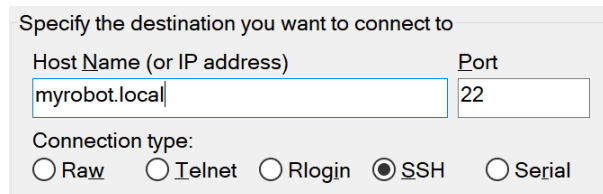

Figure 4.12 – Reconnect to the Raspberry Pi
3. Connect to it again with PuTTY using the new hostname you gave your robot (in my case, `myrobot`), with the `.local` ending and the fresh password, as shown in *Figure 4.12*: